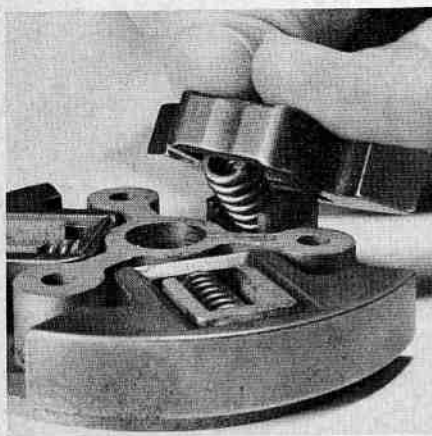

Fig. HL88—To install late type clutch shoe and spring, place spring between shoe and plate as shown, hook shoe onto plate and push shoe down into place.
Fig. HL87—View showing different clutches used on XL-700 through XL-904 series of saws. Refer to Fig. HL88 for assembly of late type (views A & B) clutch shoes (21) and springs (19) to clutch plate (20 or 24). Clutch shoes should be renewed in complete sets only to maintain balance of clutch assembly. On models XL-901 and late XL-700, clutch construction is as shown in View "A". Early model XL-700 clutch is shown in View "D". Models XL-870, XL-875 and early XL-800 use clutch shown in View "C". All other models have clutch as shown in View "B".
When reassembling early type clutch, be sure the identifying marks on the shoes are all to same side of the assembly. To reassemble late type clutch, refer to Fig. HL88.